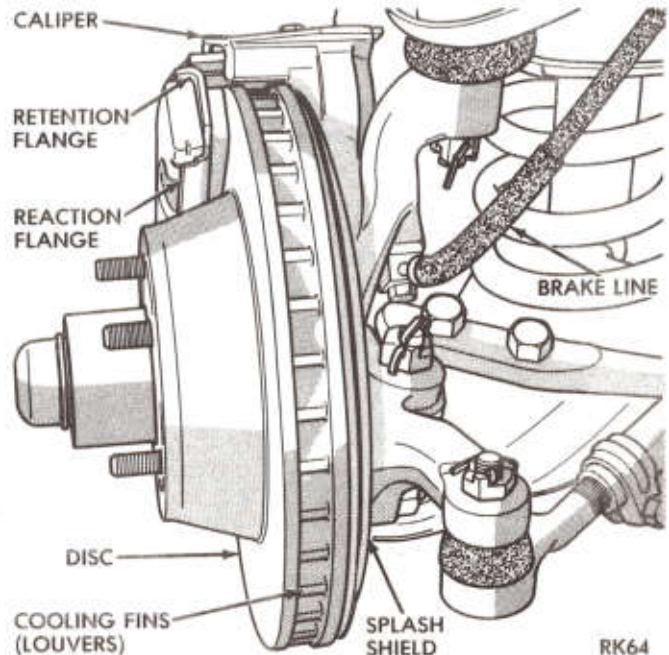
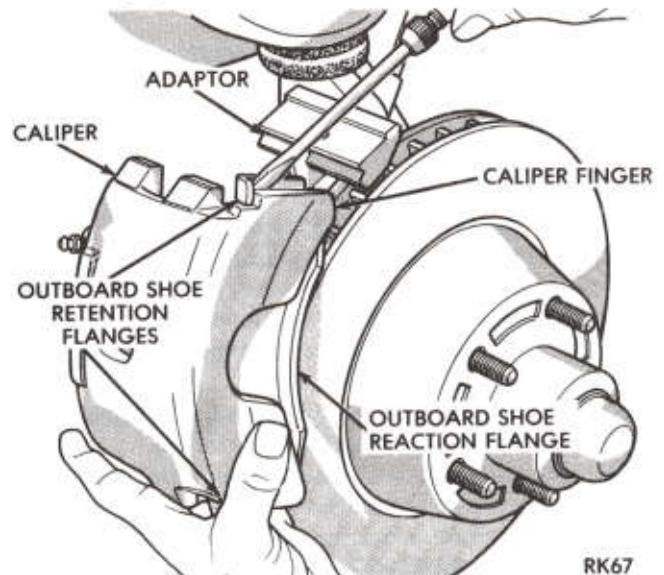
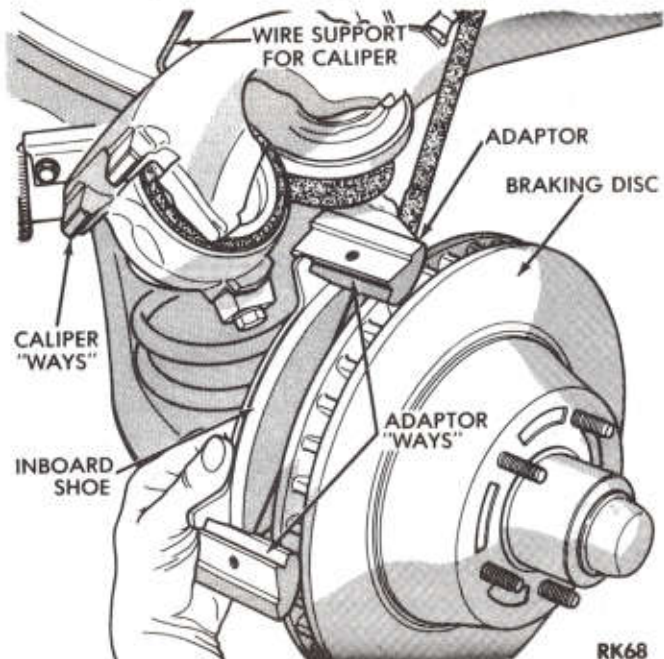

Fig. 2—Sliding Caliper Assembly (Front View)
Fig. 7—Removing Outboard Shoe
Fig. 8—Removing or Installing Shoe
The cast iron braking disc has cooling fins or louvers that are cast integrally between the two machined braking surfaces (Fig. 2).
When the wheel is in motion, the rotation of the disc cooling fins supplies air circulation between the braking surfaces for efficient cooling of the disc and prolonged lining life. The braking disc is protected from road splash (inboard side) by a shield bolted to the steering knuckle and by the wheel and tire on the outboard side (Fig. 2).
Flanges on the outboard shoe (Fig. 2) are used to radially locate and position the shoe on the caliper fingers. The inboard shoe is held in a captive position by the adaptor (Fig. 8). All braking force on the outboard shoe is taken by the caliper. The inboard shoe reacts directly on the adaptor.
- (5) Remove outboard shoe (flanges on outboard shoe will retain shoe to caliper) by prying between shoe and caliper fingers (Fig. 7). Support caliper so as not to damage flexible brake hose. Remove inboard brake shoe (Fig. 8).
(3) Remove paper from noise suppression gasket and then position inboard shoe in position on adaptor with shoe "flanges" in the adapter "ways" (Fig. 8).
(4) Slowly slide caliper assembly into position in adaptor and over disc. Align caliper on machined ways of adaptor. Be careful not to pull the dust boot from its groove as the piston and boot slide over the inboard shoe.
(5) Install anti-rattle springs and retaining clips and torque retaining screws to 200 in. lbs.